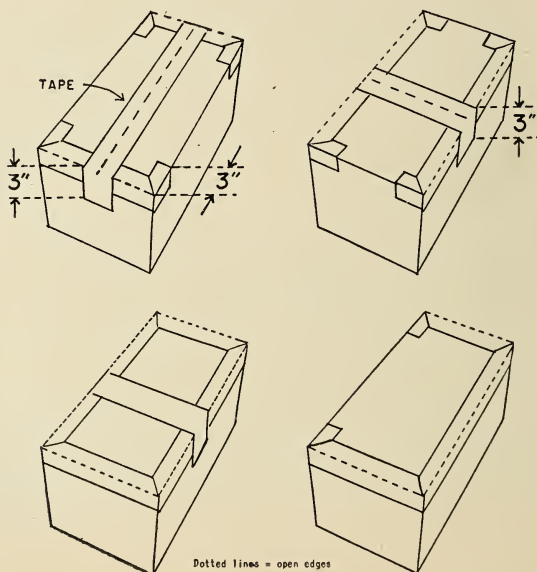

Figure 17.—Proposed methods of taping four egg cases that have different types of closures.
9. Tape all raw edges on fiber egg cases with 3-inch paper tape to close them securely (fig. 17). Transportation tests indicate that cases taped this way carry eggs in transit more safely and with less damage to the case (figs. 18 and 19).